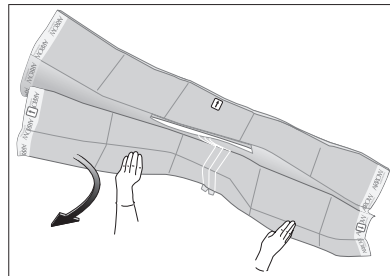

Figure 14
- Unfold towards feet (refer to Figure 14).